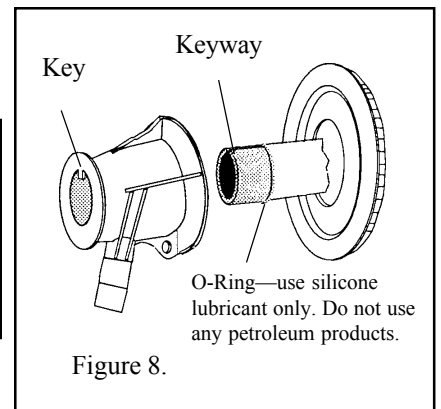

Figure 8.
15. Take the bulb assembly and insert it through the flow director. Note the aligning keyway on the bulb assembly as shown in Figure 8. The keyway must point in the same direction as the top key on the fitting body.
8. Take the new replacement bulb assembly with the red cap/plug in place and insert the bulb assembly through the flow director. Note the aligning keyway on the bulb assembly as shown in Figure 8. The keyway must point in the same direction as the top key on the fitting body.